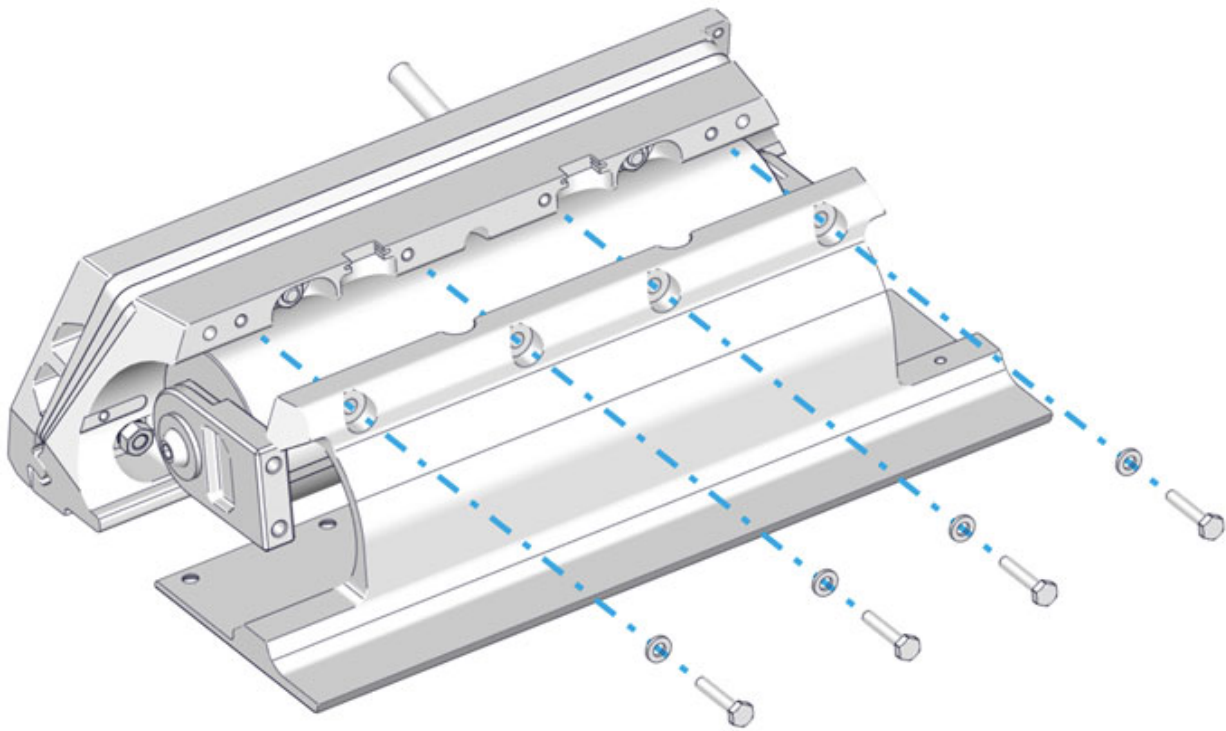

Figure 66 – Seal Plate Top Screw Installation
5. Thread locker and thread in the top four (4) M6-1.0 x 30 mm Hex Head Bolts with M6 Washers to align the Seal Plate with the Wedge Pack Assembly, but **do not tighten**. There should be a small gap (about 2 mm) between the top of the Seal Plate and the Actuator Plate. (Quantity four [4] bolts for 525 Controllers and six [6] for 750 mm Controllers) See Figure 66 – Seal Plate Top Screw Installation.